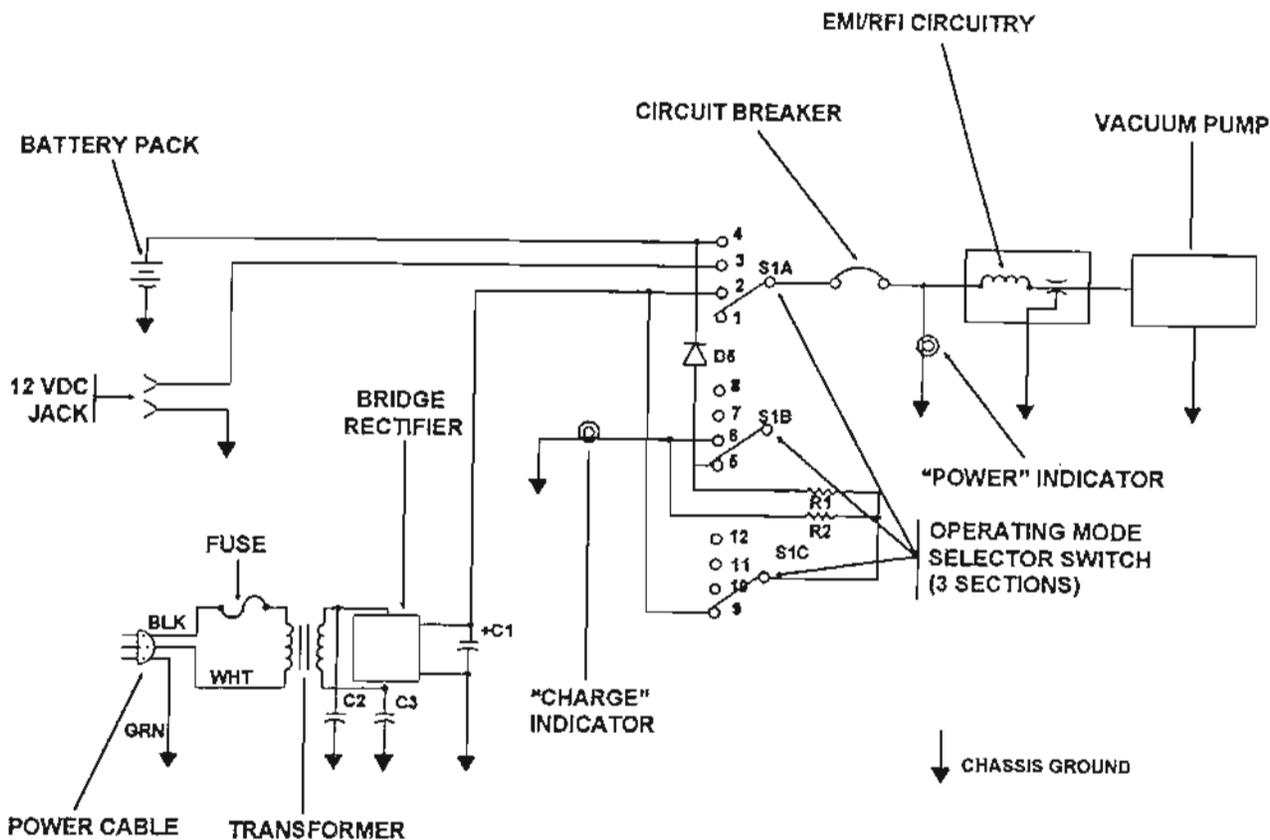

Figure 3-5. Schematic diagram.
a. The schematic diagram for the suction apparatus is provided in figure 3-5 to assist you when troubleshooting. Isolate the problem to a functional segment of the circuitry.